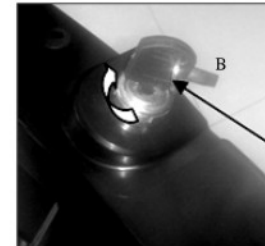

Fig. 2C B. key
c) For electric start: Insert the key, then the positive clockwise for electronic ignition operation. (Fig 2C)